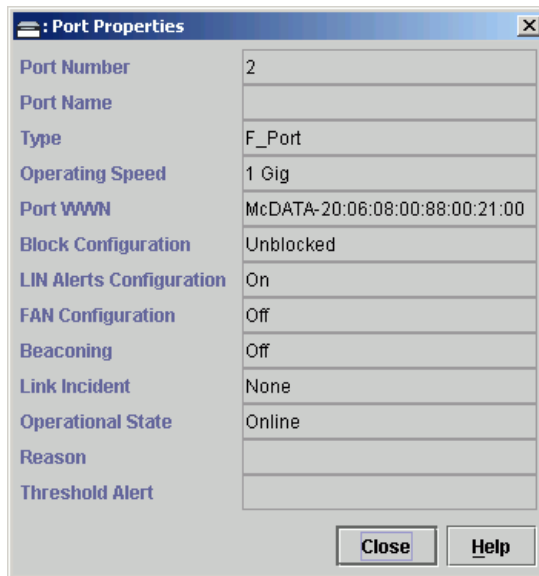

Figure 4-23 Port Properties Dialog Box
Click anywhere in the port row to open the *Port Properties* dialog box (Figure 4-23 on page 4-36). Right-click anywhere in the port row to open a pop-up menu to:
- Open the *Port Properties* dialog box (Figure 4-23 on page 4-36).
To open the *Port Properties* dialog box (Figure 4-23 on page 4-36), double-click a port graphic at the *Hardware View* or a port row at the *Port List View*. The dialog box provides the following information: